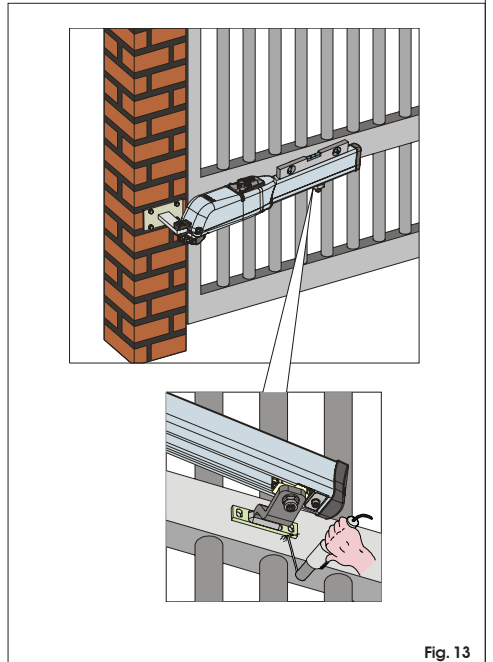

Fig. 13
6) Close the leaf and, keeping the operator in a perfect horizontal position, determine the fastening point of the front bracket (Fig.13).
7) Temporarily fix the front bracket with two welding spots (Fig.13).